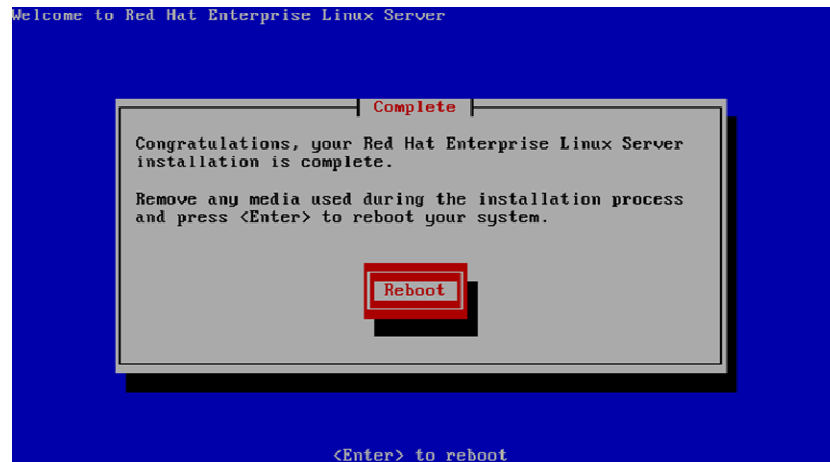

Figure 14: After successful Anaconda installation of linux, you will see this screen and can reboot.
- Phase 1 is the regular Linux anaconda installation. At the end of this phase, a few commands/scripts are executed to set up host-security and networking (anaconda %post scripts). After the Phase 1 is finished, anaconda will ask you to reboot. (See Figure 14 below).